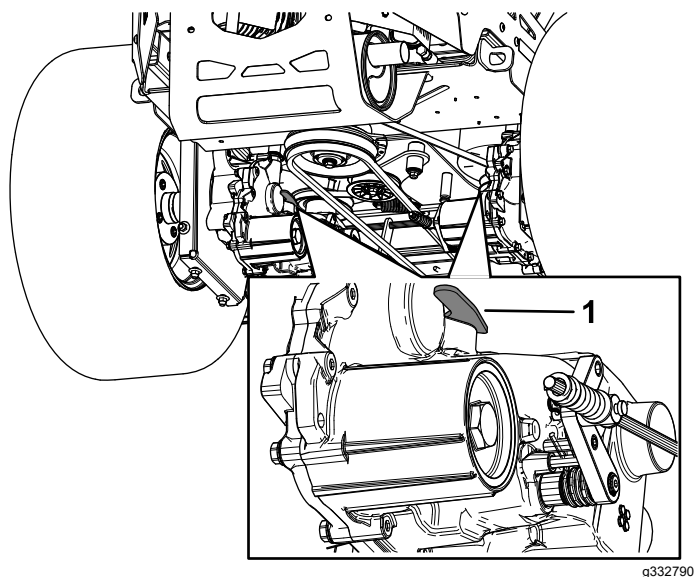

Figure 38
3. To push the machine, move both bypass levers forward and lock them into place (Figure 38).
5. To run the machine, move the bypass levers rearward and lock them into place (Figure 38).